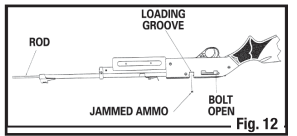

Fig. 12
- While pointing in SAFE DIRECTION, hold the gun in the position shown in Figure 12.